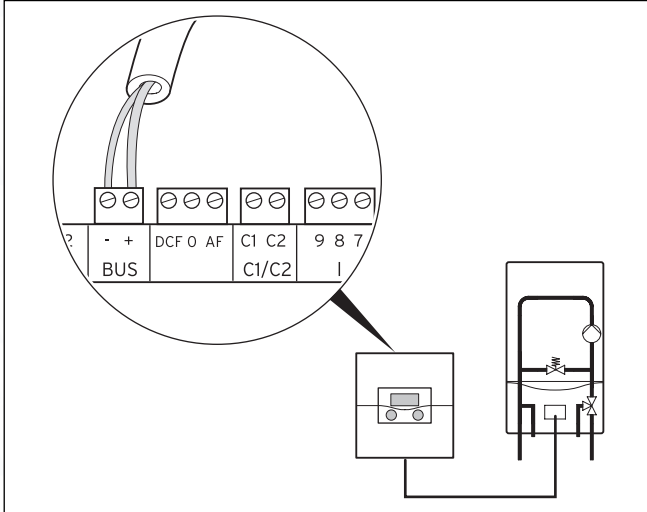

Fig. 5.2 Connecting the boiler
- Wire up the connections to the boiler as shown in Fig. 5.2.